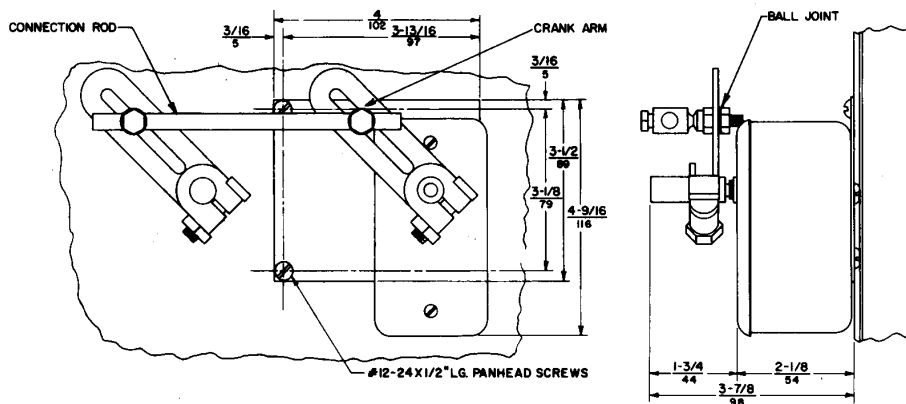

Figure 3: PQ-1001-3 Dimensions for Outside the Duct Mounting ( $\frac{\text{in.}}{\text{mm}}$ )
3. Secure the damper position indicator in place using the two #12-24 x 1/2 in. self-tapping screws to attach the bracket (with the handi-box attached) to the duct near the extended damper shaft as shown in Figure 3. Do NOT attach the linkage.
Note This is most easily achieved by making sure the two crank arms are parallel to each other as shown in Figure 3.